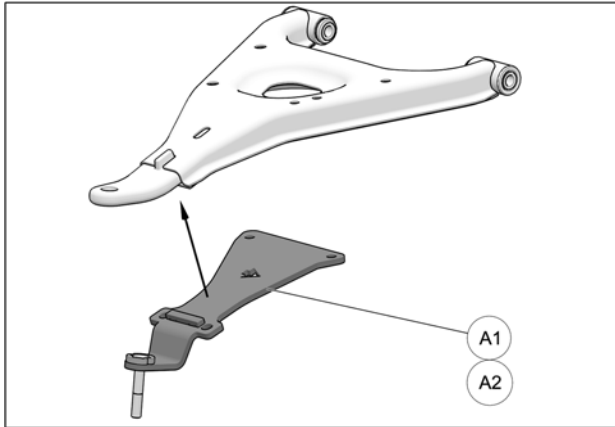

Fig. 27
14. Position bottom part of anchor bracket (**A1-A2**) assembly under front lower suspension arm, as shown in the figure below. See Fig. 27